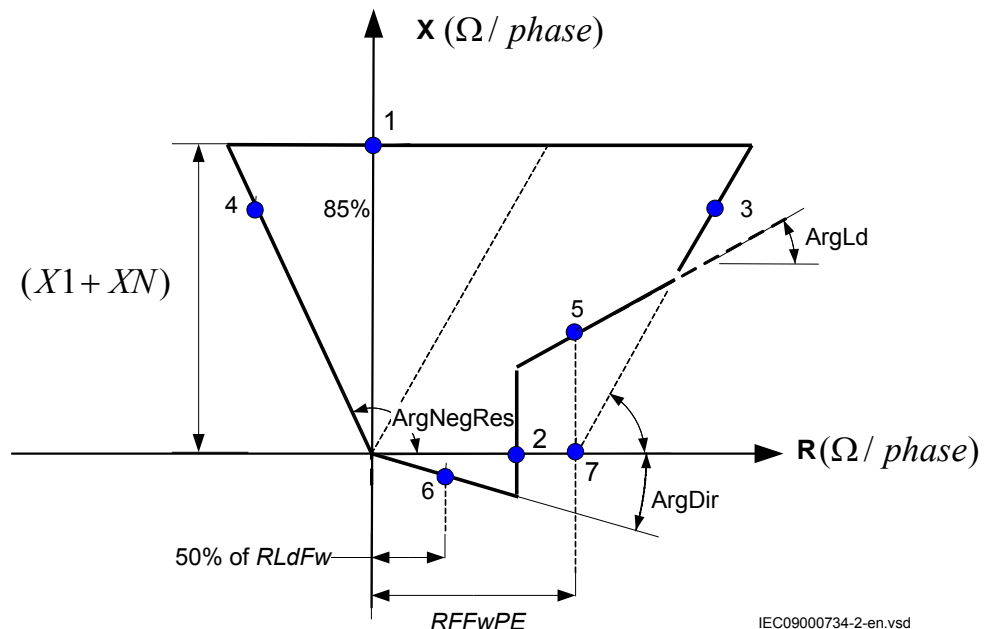

Figure 11: Operating characteristic for phase selection function, forward direction single-phase faults
Table 4 is used together with figure 11.
2. Apply the fault condition and slowly decrease the measured impedance to find the operate value for of the phase-to-earth loop L3, test point 1, according to figure 11. Compare the result of the measurement with the expected value according to table 4.
3. Repeat steps 1 to 2 to find the operate values for the remaining test points according to figure 11 and table 4.